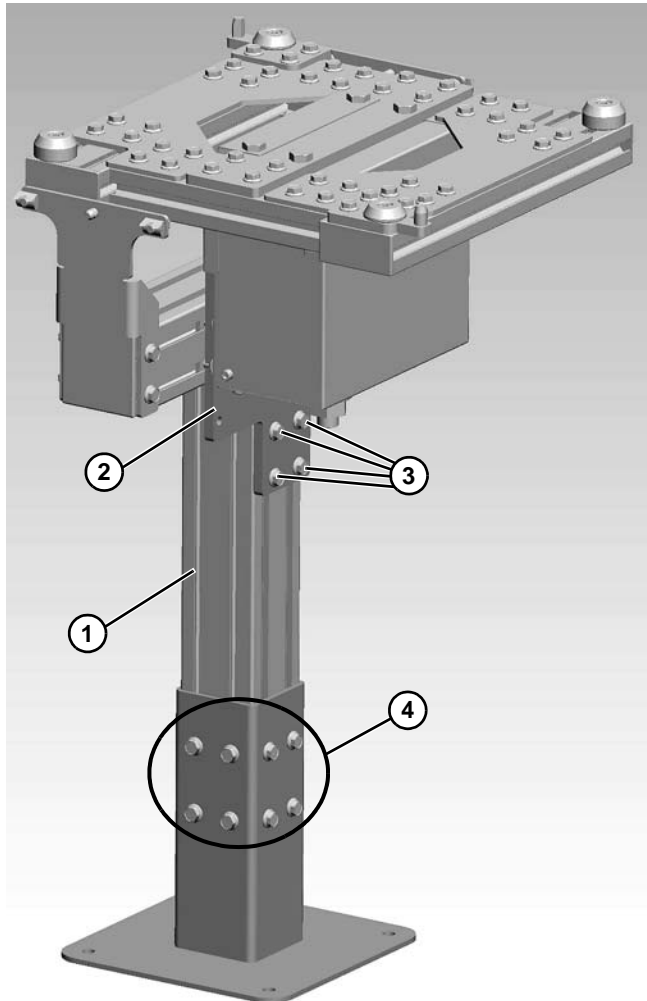

Figure 73
1. Attach stand (**Figure 73, item 1**) to module (**Figure 73, item 2**) using two connecting strips and four screws (**Figure 73, item 3**).
2. Adjust height of stands by loosening screws (**Figure 73, item 4**). Adjust height and retighten fasteners.